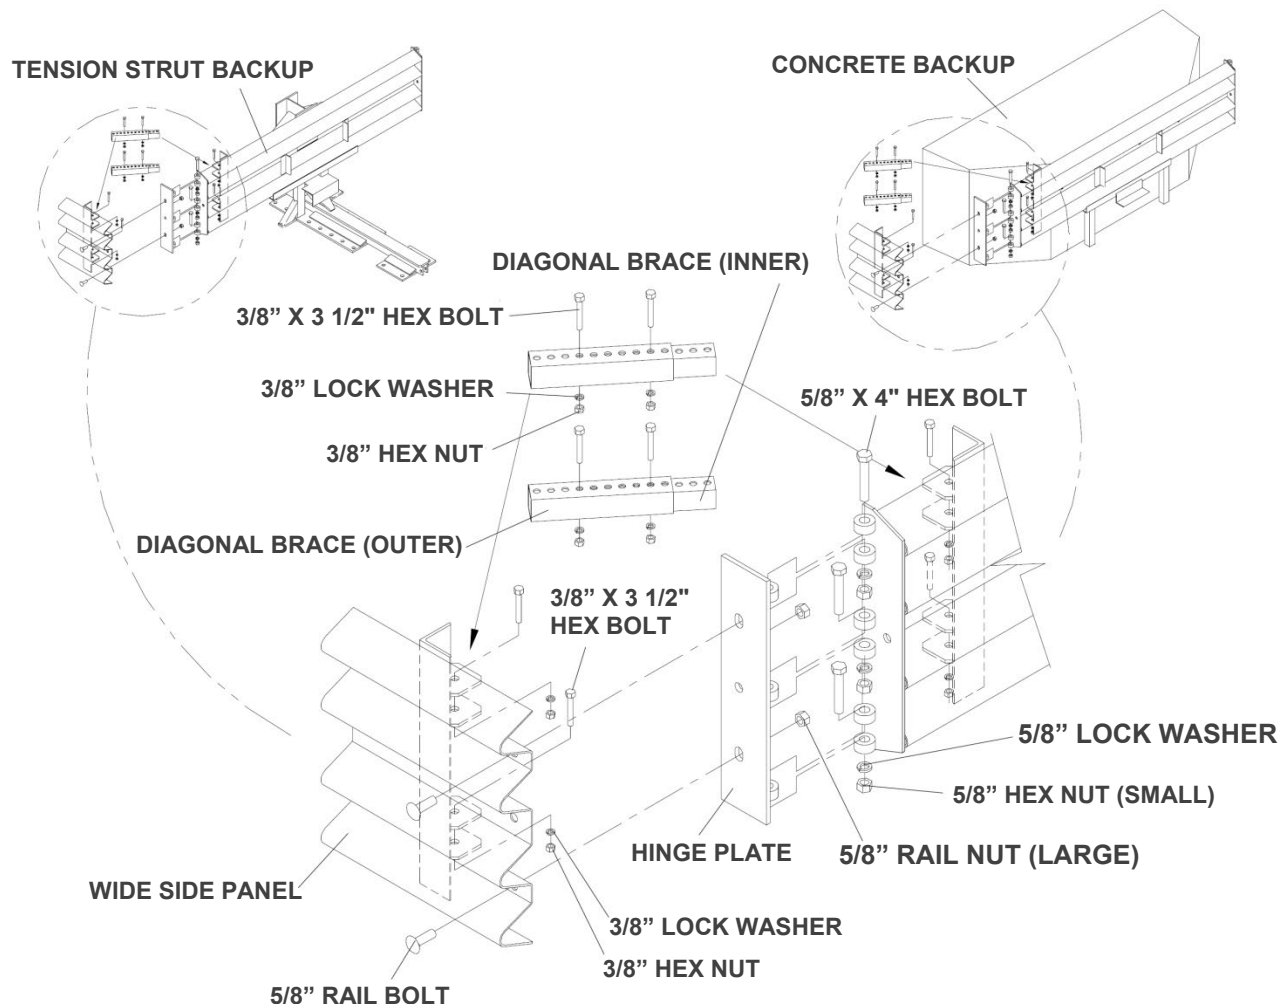

Figure 57
4) Attach Side Panels and/or Transition Panels to Backup Assembly (Figure 57)
- Attach diagonal brace to Fender Panel and Backup using 3/8" hex bolt, 3/8" lock washer and 3/8" hex nut (two (2) places per brace: four (4) places per side).
- Secure each diagonal brace with a 3/8" hex bolt; 3/8" lock washer, and 3/8" hex nut (two (2) places per brace) as shown in Figure 57.